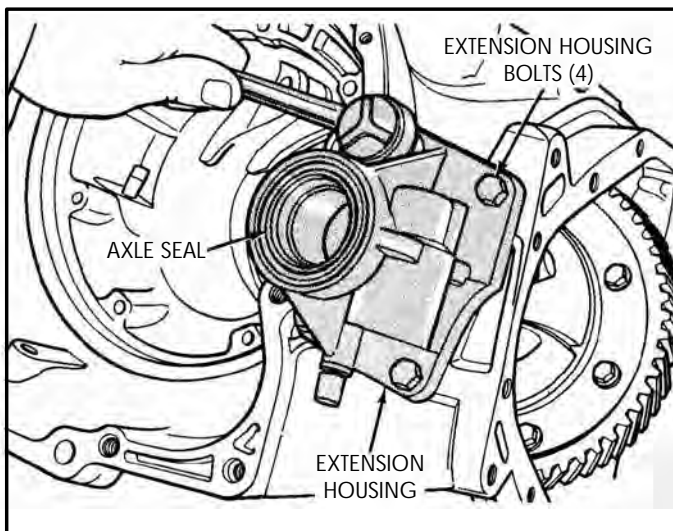

Figure 182
14. Torque the four extension housing bolts down to 28 N·m (20 ft.lbs.) (See Figure 182).